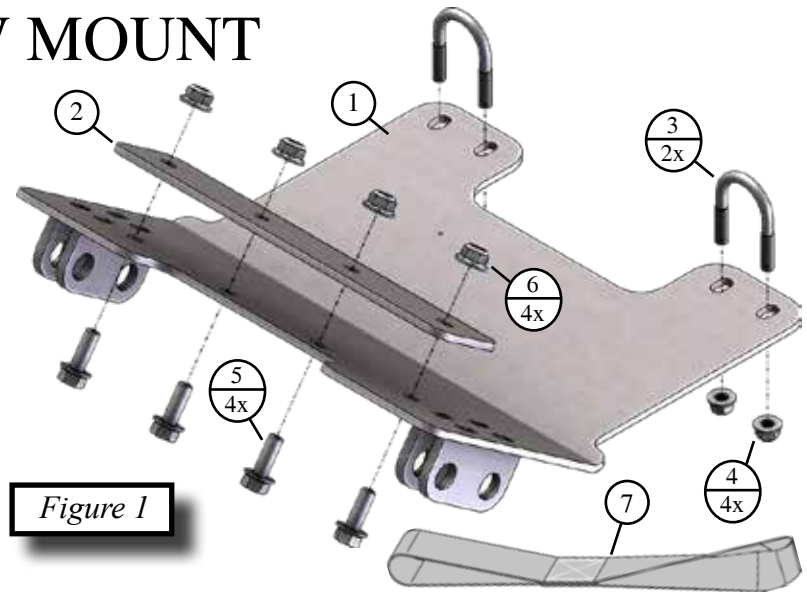

Figure 1
1. Set the bolt plate (Item #2) behind the front bumper. Shown in Figure 1 & 2.